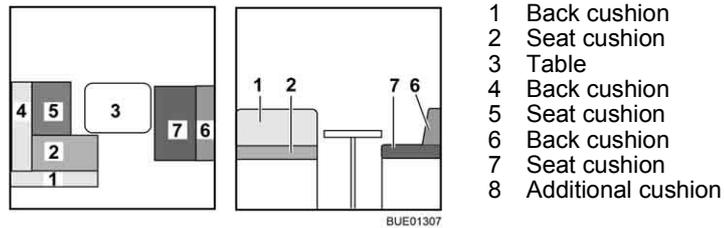

Fig. 127 Prior to conversion
- Convert the table (Fig. 127,3) to a bed foundation (see section 6.10).
- Remove the back cushions (Fig. 127,1 and 4) and lay them aside.